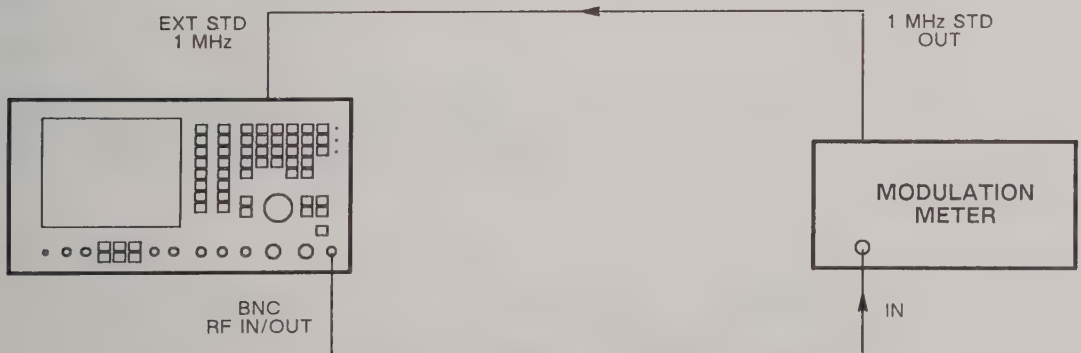

Fig. 6-22 Test equipment connections for RF generator frequency
- (1) Connect the frequency counter to the RF IN/OUT BNC socket. See Fig. 6-22.
- (2) On the 2955A, set the MODE to RECEIVER TEST, GEN FREQ to 1000 MHz, LEVEL to 0 dBm, MOD to OFF and RF IN/OUT socket to BNC.
- (3) Check that the counter reading is the same as the GEN FREQ setting ± 20 Hz.
- (4) Reset the GEN FREQ to other frequencies between 0.4 and 1000 MHz and repeat (3).